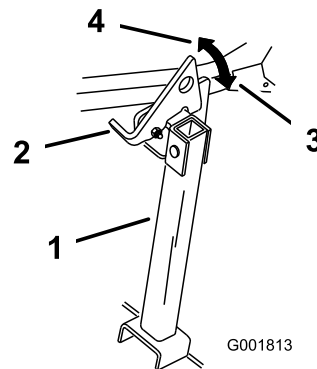

Figure 36
2. Raise the latch to the UNLOCKED position (Figure 36).